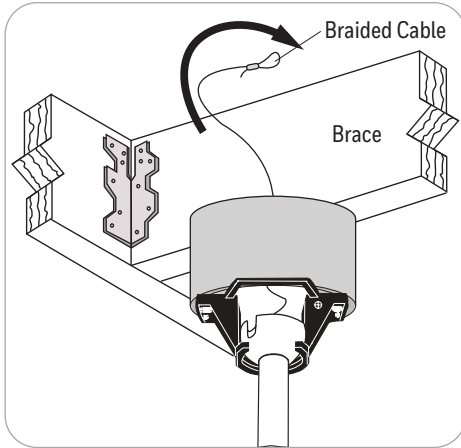

Figure 4.1
- WARNING:** Secondary support is required for this product. Failure to follow the steps below could result in property damage and/or personal injury. Feed the loop of the braided cable, preassembled to the motor assembly, up through the outlet box mounted in the ceiling (Figure 4.1).